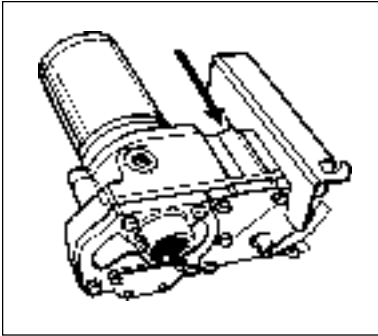

Figure 4
5. Insert the power cord through the power cord inlet on the back of the pump. (Figure 4) Using wire nuts, connect the black wire of the power cord to the black wire in the electrical cavity. Connect the red wires in the same manner.